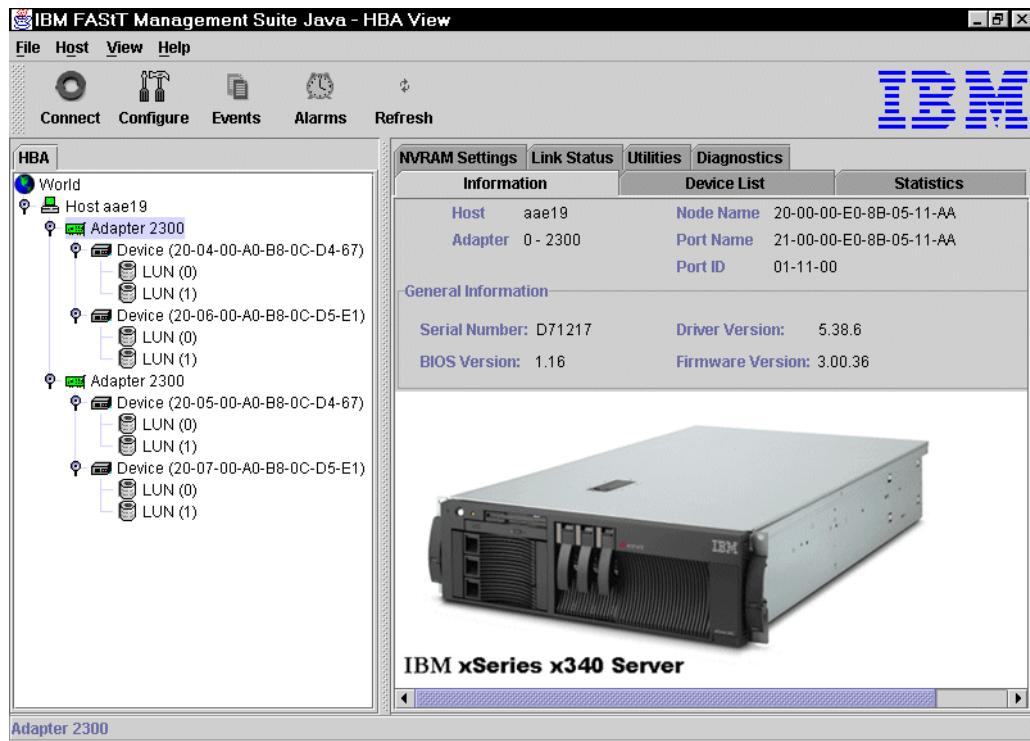

Figure 4-66 FAStT MSJ HBA view
6. Click one of the host bus adapters in the left-hand pane and the right-hand pane changes. There are now seven tabs as shown in Figure 4-66.